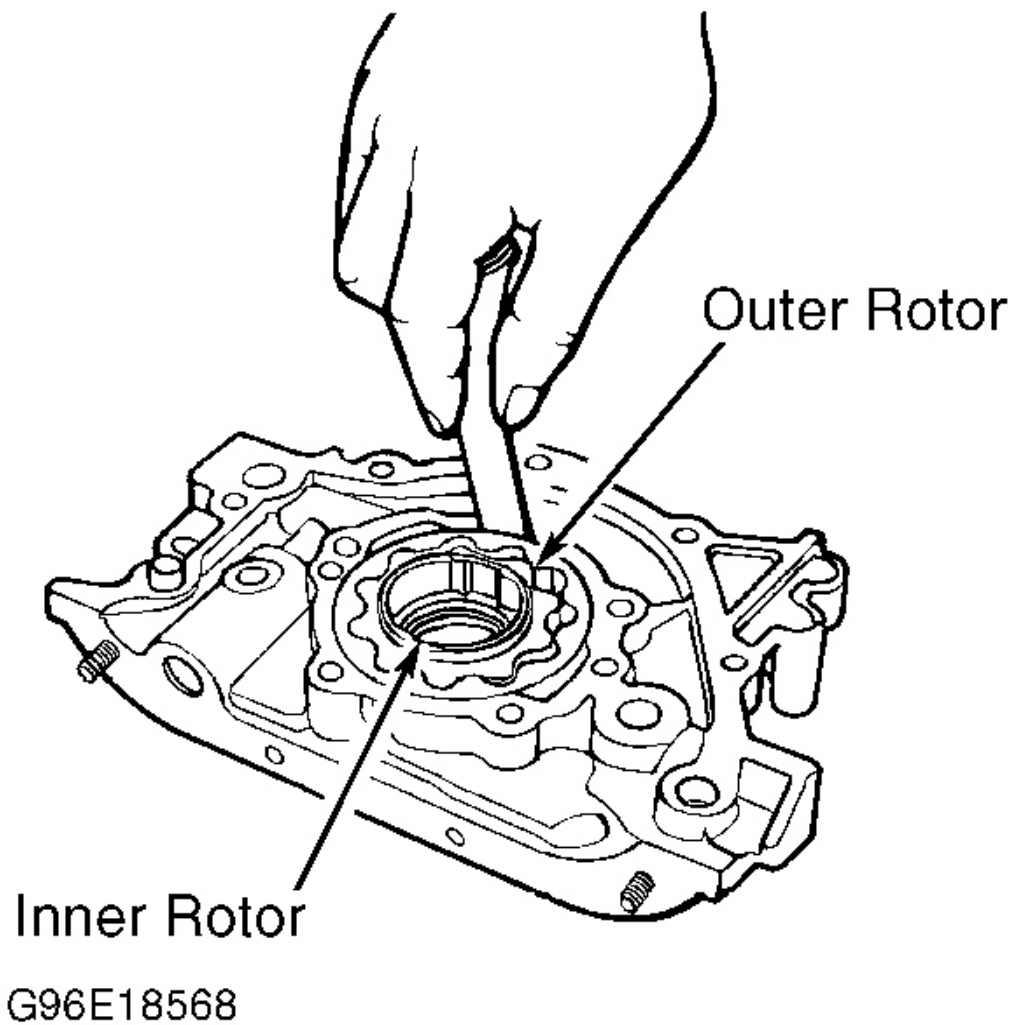
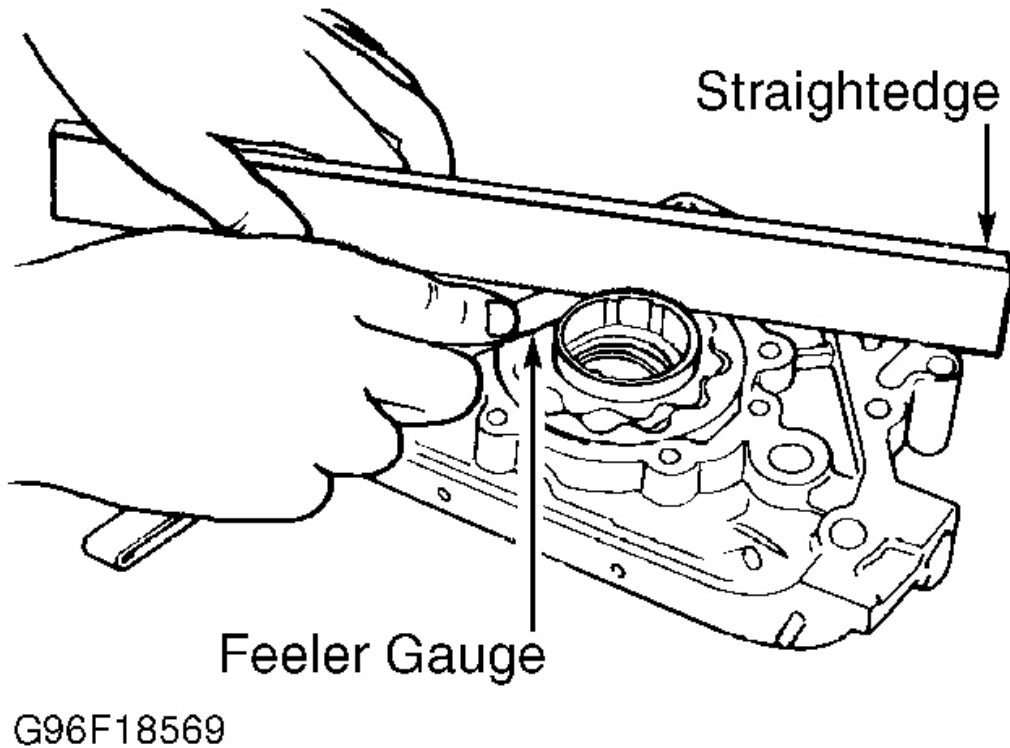

Fig. 18: Checking Oil Pump Radial Clearance
Fig. 19: Checking Oil Pump Side Clearance
2. Inspect oil pump gears for wear or damage. Using a feeler gauge, measure radial and side clearance. See **Fig. 18** and **Fig. 19** . If clearance exceeds specification, replace outer rotor or case. See **OIL PUMP SPECIFICATIONS** table.